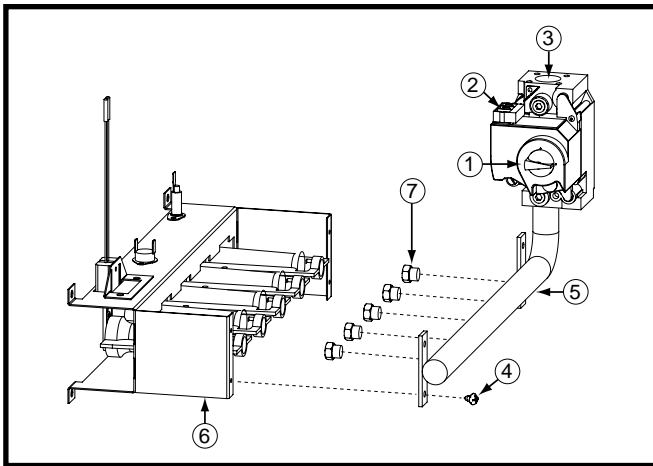

Figure 37. Burner & Manifold Assembly
4. Remove the door from the burner compartment. See Figure 37 \(page 29\).
5. Turn the gas valve ON/OFF knob (1) to the OFF position.